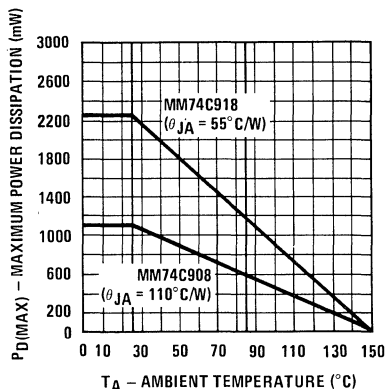

FIGURE 2. Maximum Power Dissipation vs Ambient Temperature
To assure junction temperature of  $150^\circ C$  or less, the on-chip power consumption must be limited to within the power handling capability of the packages. In *Figure 2*, the maximum power dissipation on-chip is shown as a function of ambient temperature for both MM74C908 and MM74C918. These curves are generated from (1) at  $T_j = T_{j(MAX)} = 150^\circ C$ .